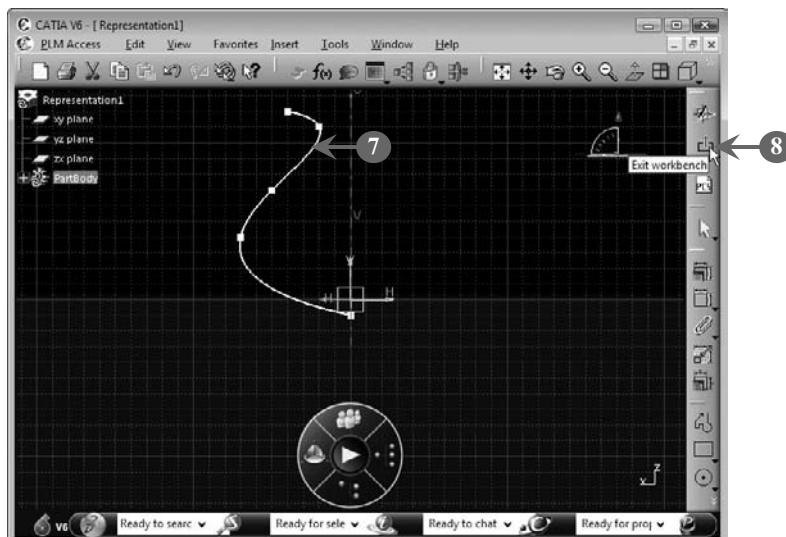

FIGURE 5.35
7. Draw an axis parallel to the z axis that is the revolution axis (**Figure 5.35**).
8. Click the **Exit workbench** button on the **Workbench** toolbar to exit the Sketcher workbench, as shown in **Figure 5.35**: